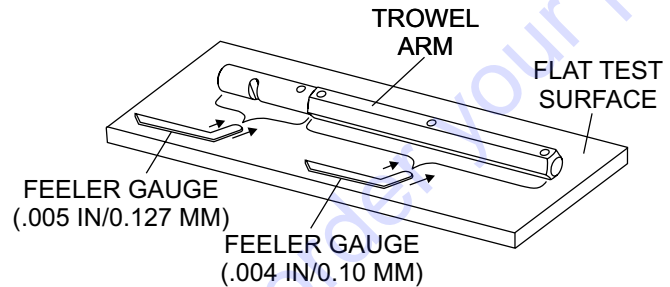

Figure 59. Checking Trowel Arm Flatness
1. Use a thick steel plate, granite slab or any surface which is true and flat, to check all six sides of each trowel arm for flatness (Figure 59).